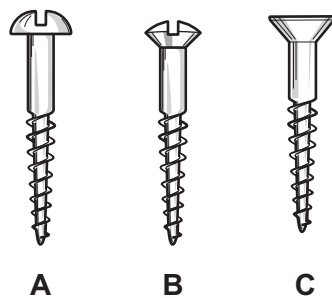

Fig. 9.1
- 9 Fig. 9.1 shows three wood screws, **A**, **B** and **C**, with different types of head.